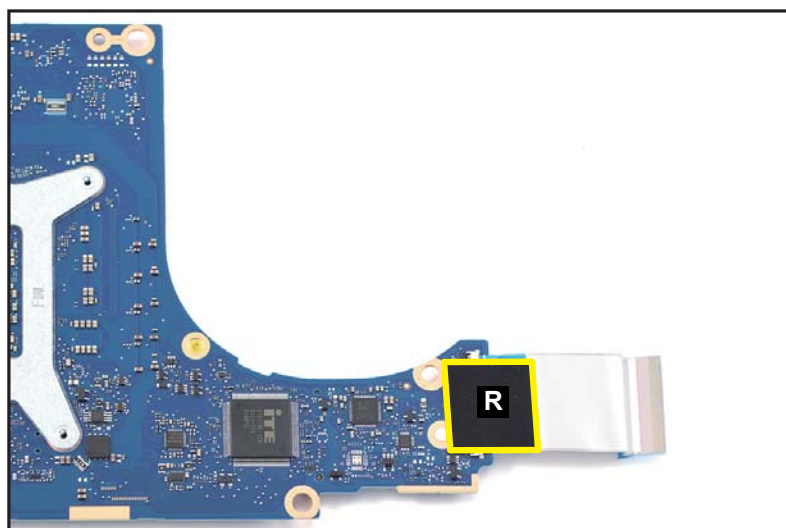

Figure 1-45. Mainboard Removal
15. Flip the mainboard and detach the tape (R) securing the DB FFC connection (Figure 1-45).